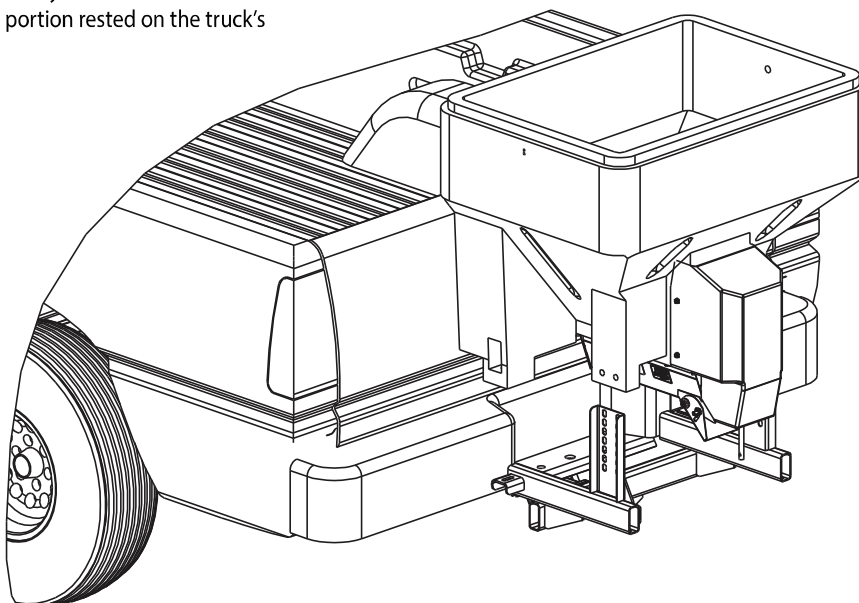

Fig. 2
2. Slide hopper assembly #3019372 between frame uprights with front portion rested on the truck's bumper. Fig.2.